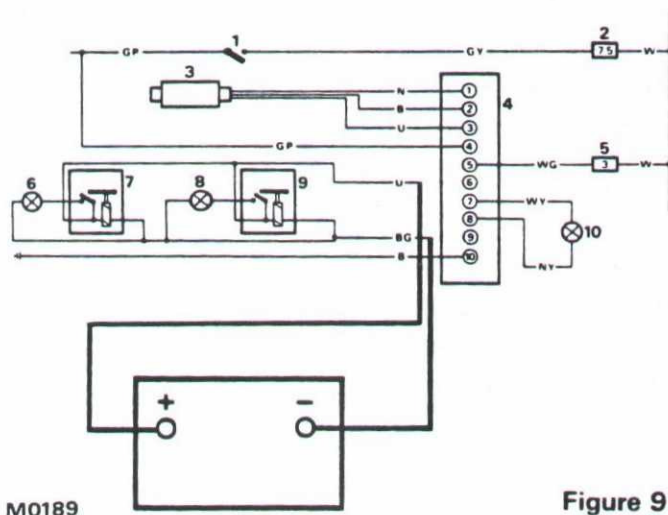

Figure 9
- 3 Connect positive lead from the 12 volt slave battery to the blue coded wiring supply to the door solenoids and the negative lead from the battery to the black/green coded wiring as shown in figure 9. Making connection should result in the audible operation of both door solenoids.